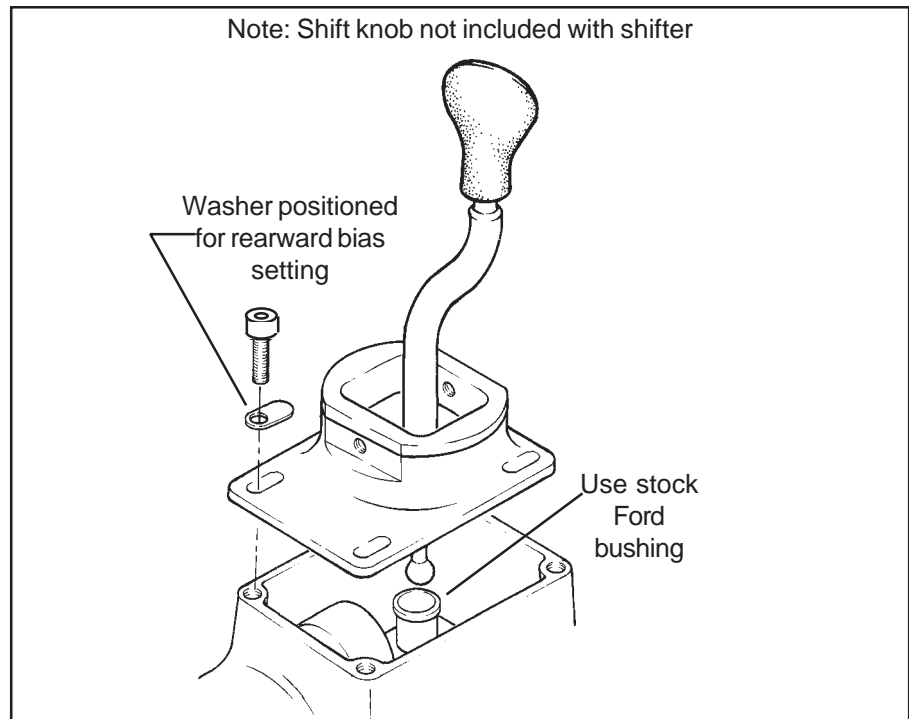

Figure 1
Step 4. Before you put the shifter into the car, remove all traces of the original sealer from the shifter mounting surface. **Note:** Since the shifter “neutral position” is adjustable, you may wish to test fit the shifter first to determine which location you prefer. By installing the adjustment washers with the hole towards the rear, you keep the approximate stock location. By installing the washers with the hole towards the front, you can give a slight rearward bias to the shifter (**See Figure 1**). Put new RTV sealer on the top surface of the transmission and install the **B&M Short Throw Shifter**. Use the four supplied M8-1.25 x 25mm socket head bolts and adjustment washers to secure the shifter to the transmission (**See Figure 1**). (Do not use the stock bolts). Tighten the screws to 12-15 lb-ft.